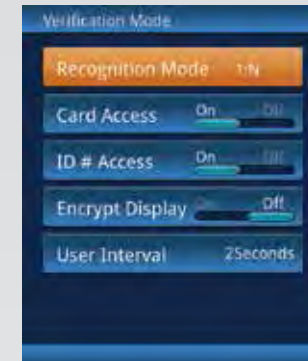

Fig 7.11-1
- From the System Settings menu, use the **▲** or **▼** keys to highlight the Verification Mode menu option. Touch **OK** to access the Verification Mode menu. (**Fig 7.11-1**)